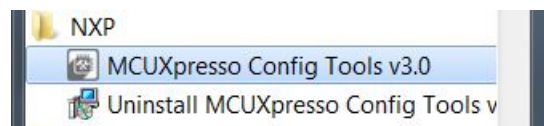

Figure 4. MCUXpresso for Windows® OS 7
3. To execute MCUXpresso, access the Start Menu (or corresponding location of your system) and open *NXP* → *MCUXpresso Config Tools* as shown in Figure 4.